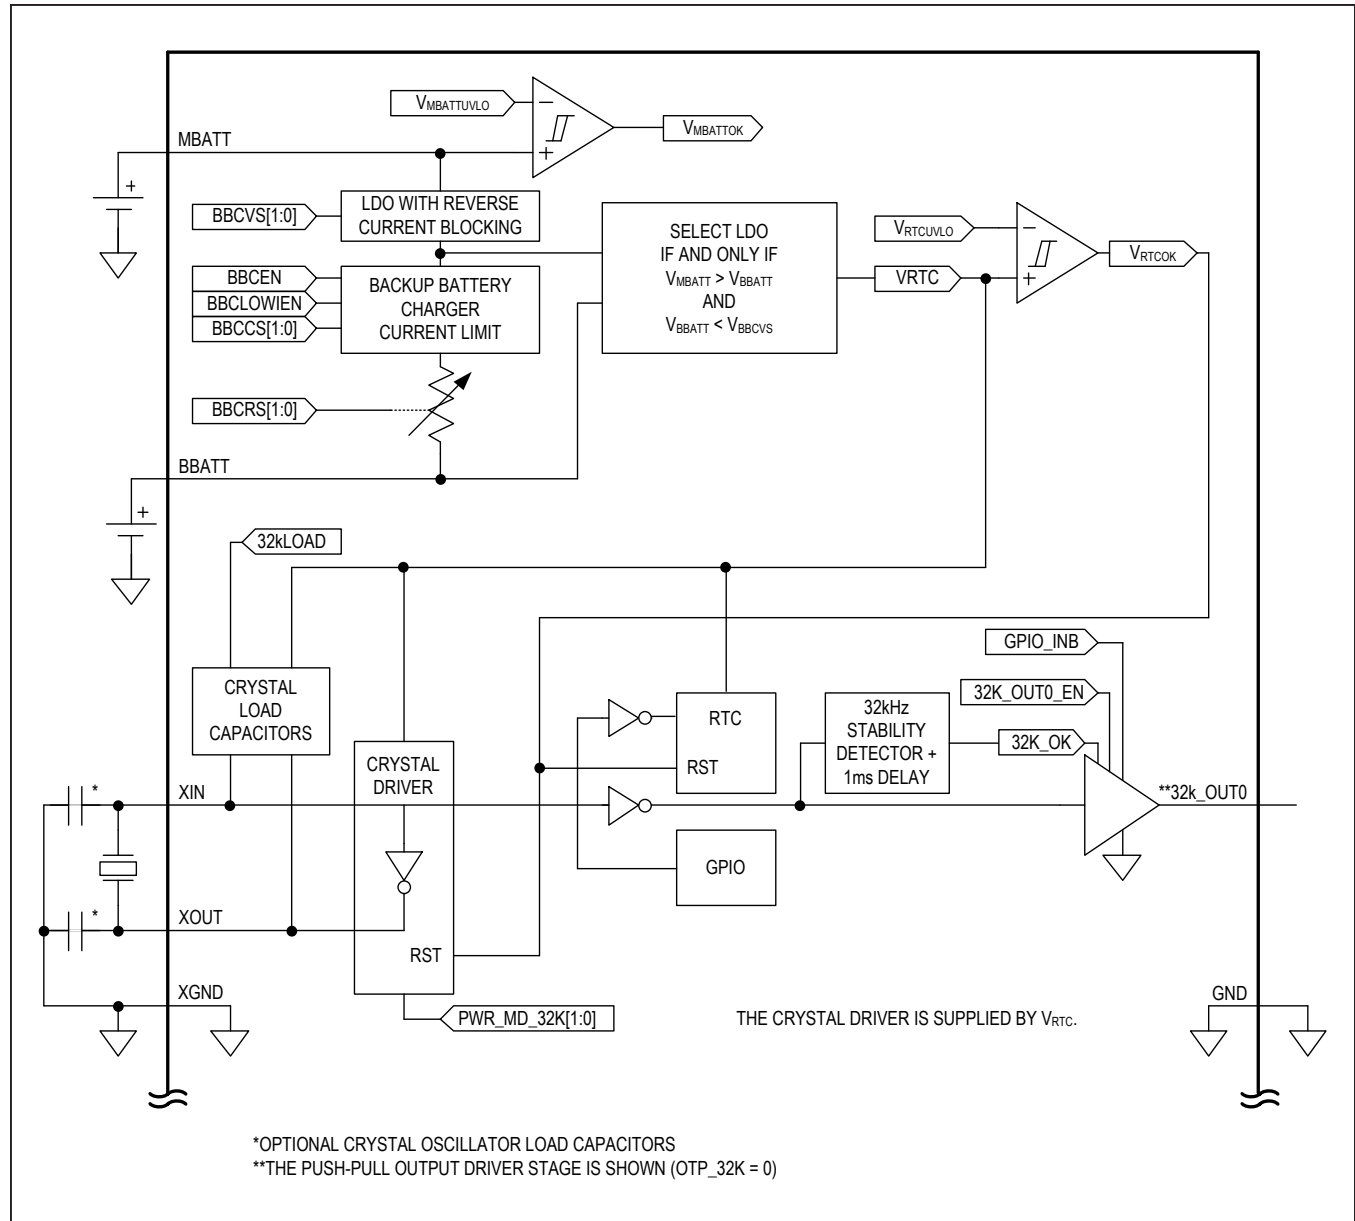

Figure 14. Backup Battery Charger, 32kHz Crystal Oscillator and RTC
The IC contains a crystal oscillator driver with internal load capacitance selectable by 32KLOAD[1:0] (Figure 14). PWR_MD_32K controls whether the crystal driver is in low-power mode or low-jitter mode. In low-power mode, the oscillator quiescent current is 1.5μA and in low-jitter mode the cycle-by-cycle jitter is 15ns. The crystal driver is supplied from the internal V_{RTC} node which is equal to V_{MBATT} if V_{MBATT} > V_{MBATTUVLO}.
The backup battery charger is a constant voltage (CV) and constant current (CC) style charger with a series output resistance as shown in Figure 14. The backup battery charger is enabled and disabled with BBCEN. The charge current, charger voltage, output current, and output resistance are adjustable with the BBCCTRL register. The backup-battery charger is suitable for the following types of backup cells: